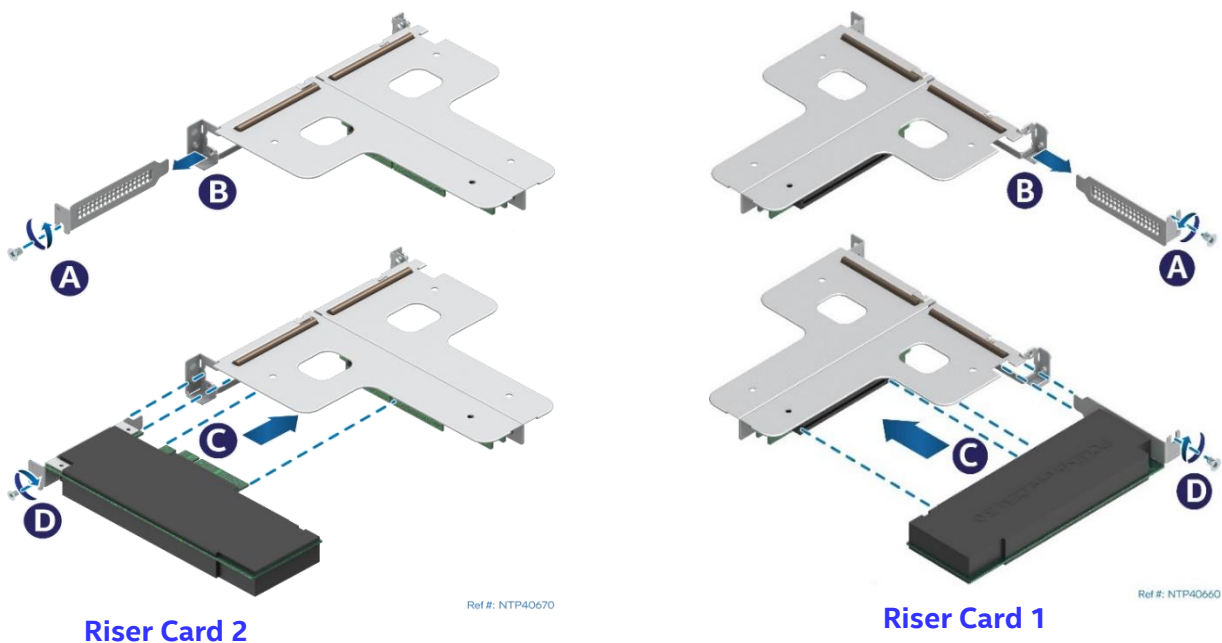

Figure 27. PCIe* Add-in Card Installation
5. Locate, Unpack, and Install the PCIe* Add-in card into one of the riser cards (see Figure 27)